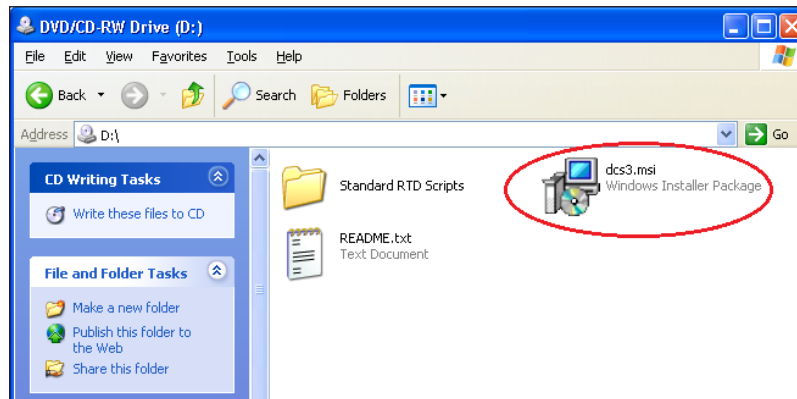

Figure 49: DCS Installation Folder
2. Press the Windows key [⊞] + [E] to open File Explorer. Double-click your CD-ROM drive, and then double-click the "dcs3" file (Figure 49).